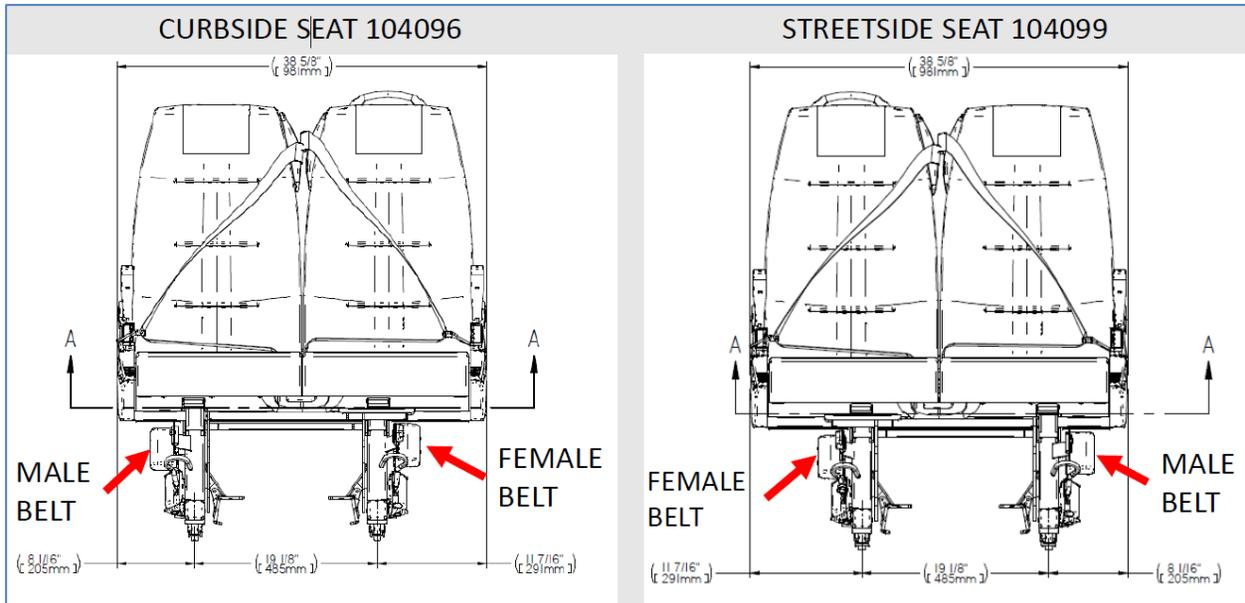

Figure 1
1. Rework wheelchair occupant restraint system. More precisely, the male belt located on the wall side (Figure 1).